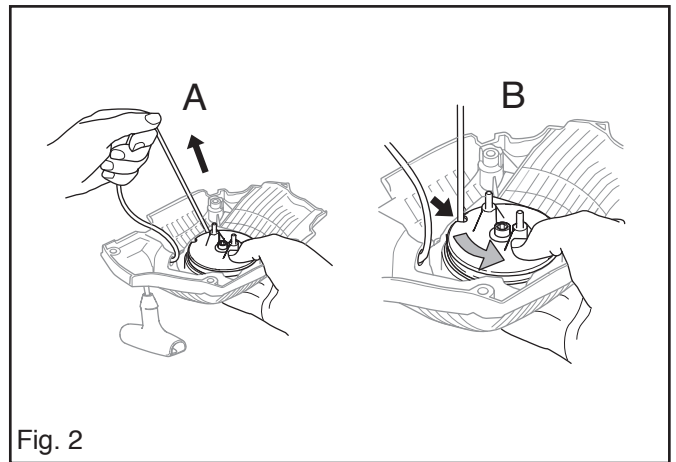

Fig. 2
2. Pull out the handle 20-30 cm and take out the cord from the slot in the starter pulley. See fig. 2.
6. Remove the spark plug and fit the piston stop in spark plug hole. See fig. 2.